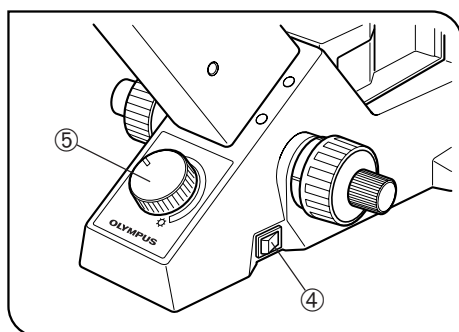

Fig. 2
10. Always turn the light intensity control knob ⑤ gently. Do not attempt to turn it beyond the stop position. (Fig. 2)